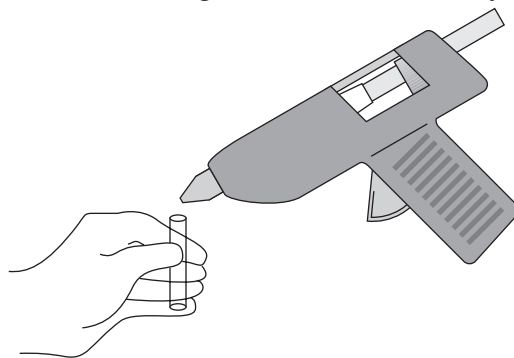

Figure 1: Hold the tube between the thumb and first finger when filling it with glue.
2. Extrude the hot melt glue into a mold by filling it halfway on one end, starting at the center and filling to the top. Turn the tubing mold over and fill the other half, again starting at the middle and filling to the top. (See Figure 1.)